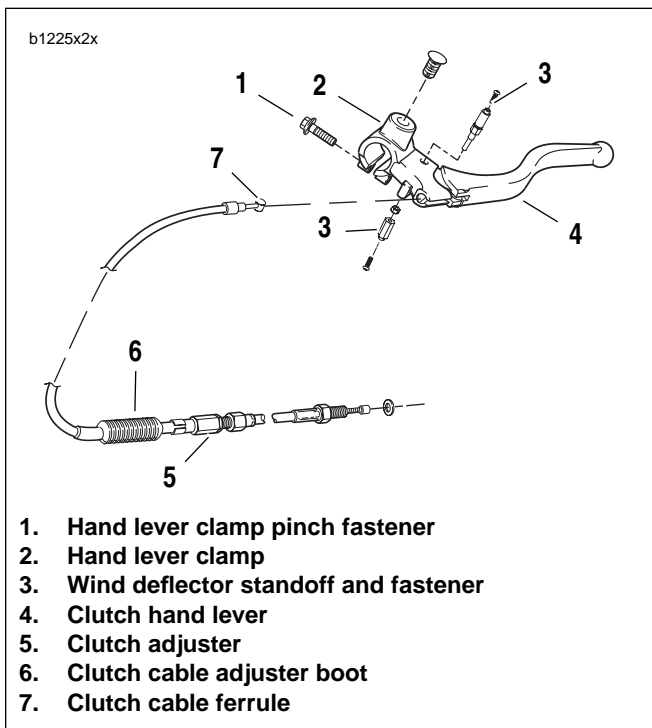

Figure 2-106. Clutch Hand Control Assembly
8. See Figure 2-106. Connect clutch cable ferrule (7) to hand lever (4).